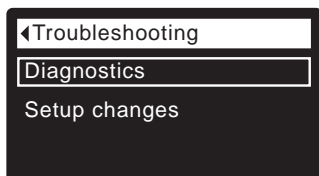

FIG. 91
2. To display the Diagnostics screen from any of the rolling status screens (when an error code is not displayed), press the SELECT (O) button to display the **Main menu**.
4. Press the SELECT (O) button to display the Advanced settings menu.
6. Press the SELECT (O) button to display the Troubleshooting menu (See Figure 91).
1. From any of the rolling status screens, press the SELECT (O) button to display the **Main menu**.
3. Press the SELECT (O) button to display the Advanced settings menu.
5. Press the SELECT (O) button to display the Troubleshooting menu (See Figure 91).
- **Cancel** will return to the Troubleshooting menu (Figure 91).
9. Press the SELECT (O) button.